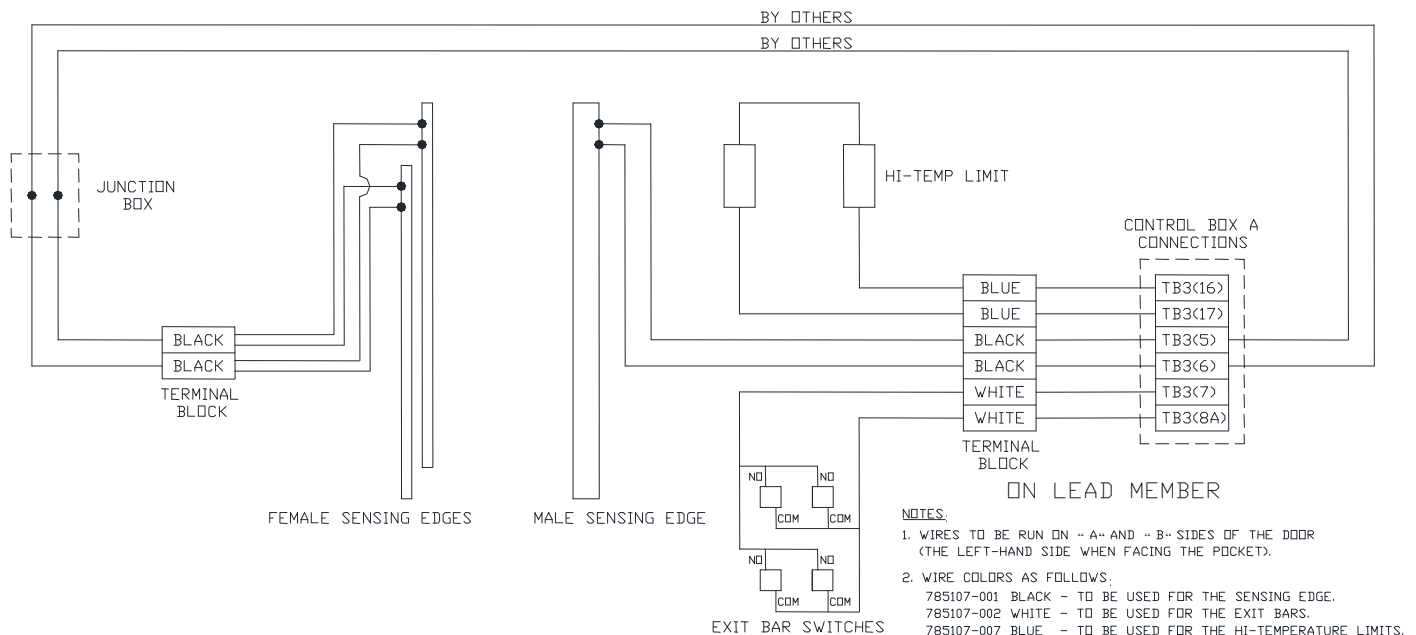

Figure 4b. Lead Post Wiring Diagram (Single Operator Bi-Parting Doors)
- Bi-Part Single Operator: **Figure 4b.**